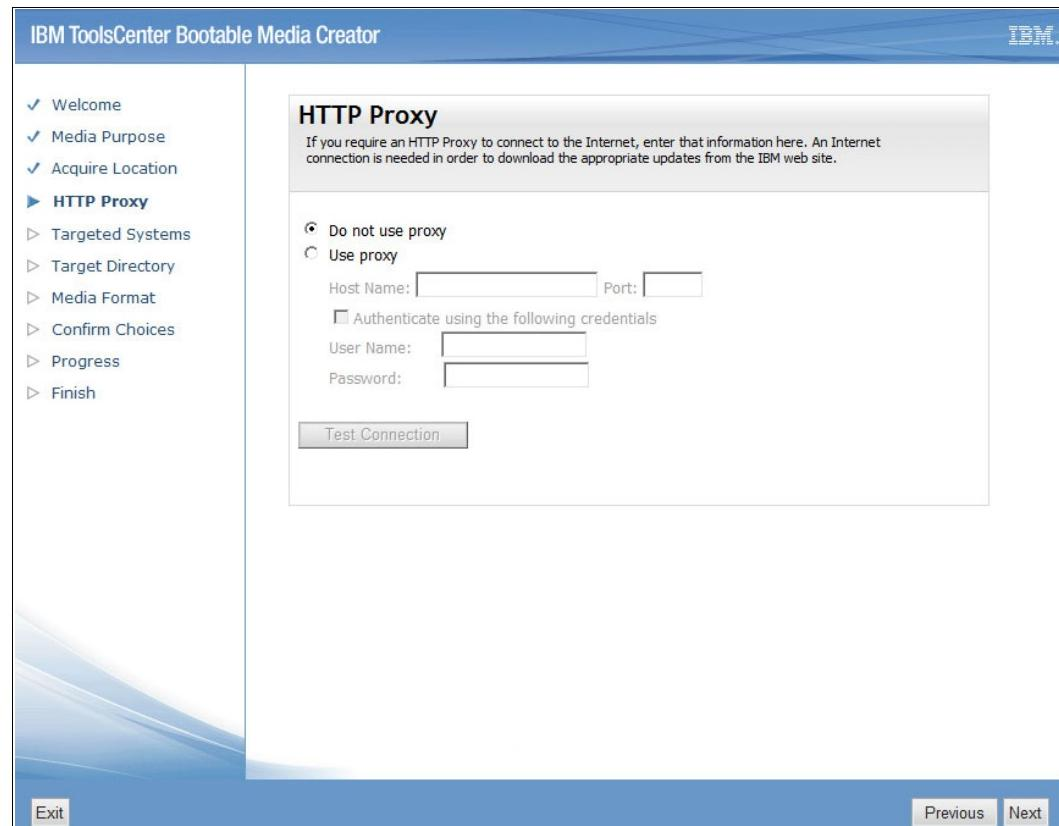

Figure 6-4 BoMC HTTP Proxy window
- If you chose either download option in the Acquire Location window, the HTTP Proxy window shown in Figure 6-4 on page 119 opens. Enter HTTP proxy settings if required, or leave the default if you are not using a proxy and direct Internet access is enabled on your local machine.